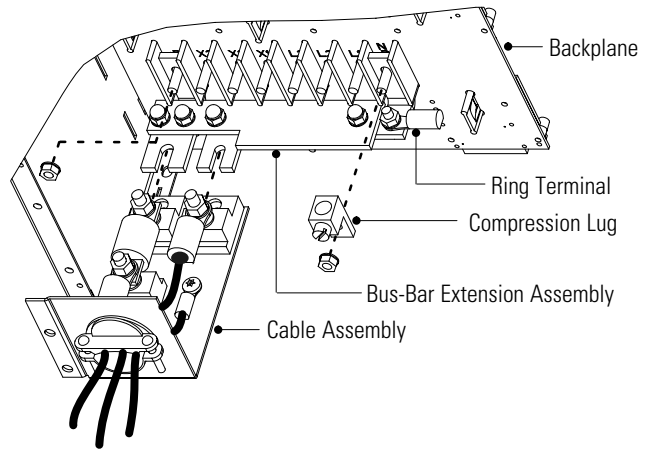

Figure 15. Bus-Bar Extension Installation
6. Remove the nuts holding the +DC and the –DC bus bars to the backplane as shown in Figure 15. Remove the ring terminal and the compression lug from the –DC bolt.
7. Position the bus-bar extension assembly onto the +DC and –DC bolts as shown in Figure 15. Replace the compression lug onto the –DC bolt of the bus-bar extension assembly. Secure the assembly by replacing the two nuts removed in Step 6.
10. Loosen the three large nuts on the end of the cable assembly (see Figure 15).